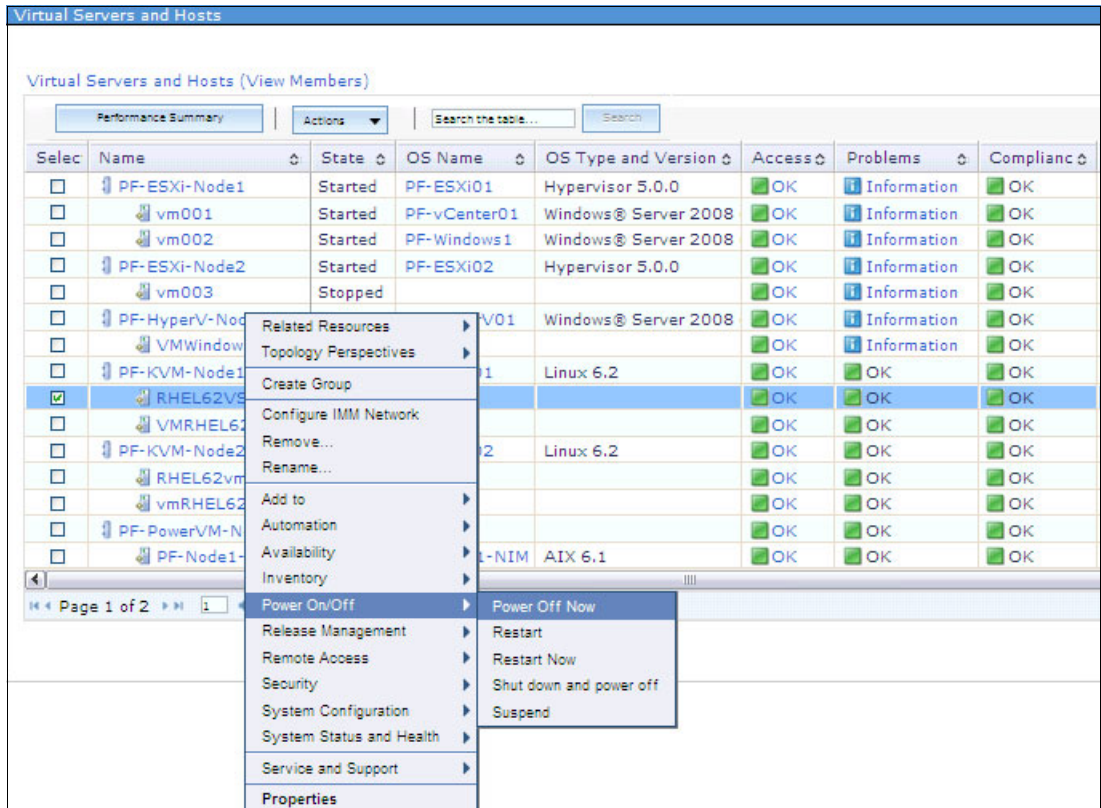

Figure 9-151 Power off the server for capture
12. Go back to the Virtual Servers and Hosts window. Power off the virtual server that you want to capture by right-clicking the name and clicking **Power On/Off** → **Power Off Now**, as shown in Figure 9-151.